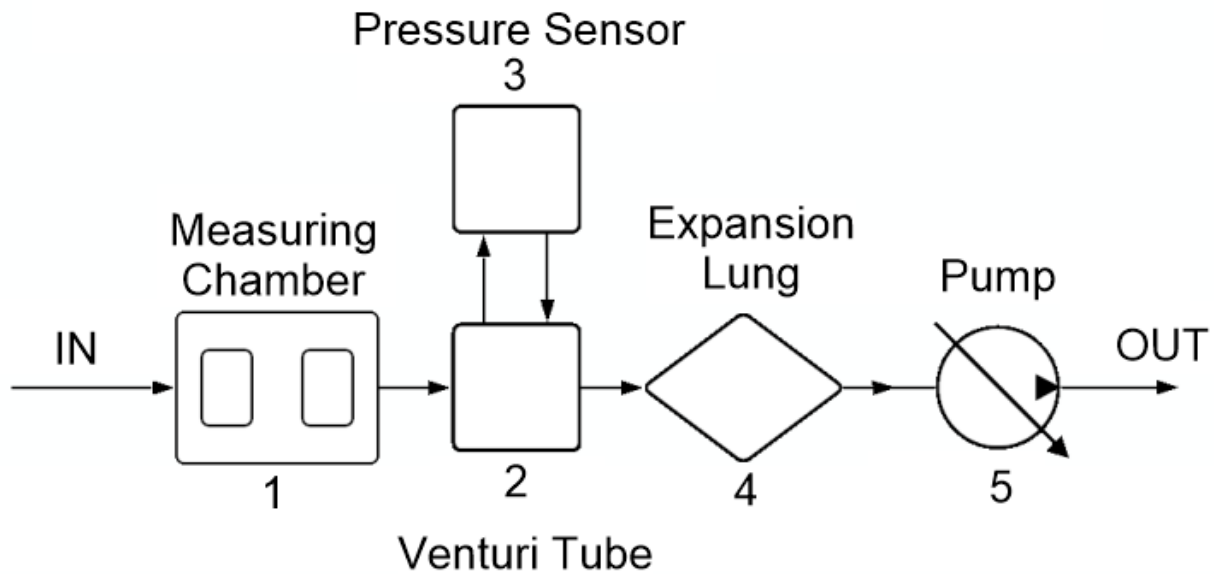

Figure 2.2: Pneumatic Circuit
Figure 2.2 shows the DBAP5 pneumatic circuit. Air flow entering the measuring chamber (1) through the proper inlet is continuously measured by a Venturi tube (2). Any eventual flow fluctuation due to the pump (5) is attenuated by an expansion lung (4). Air flow is then evacuated through the instrument outlet.